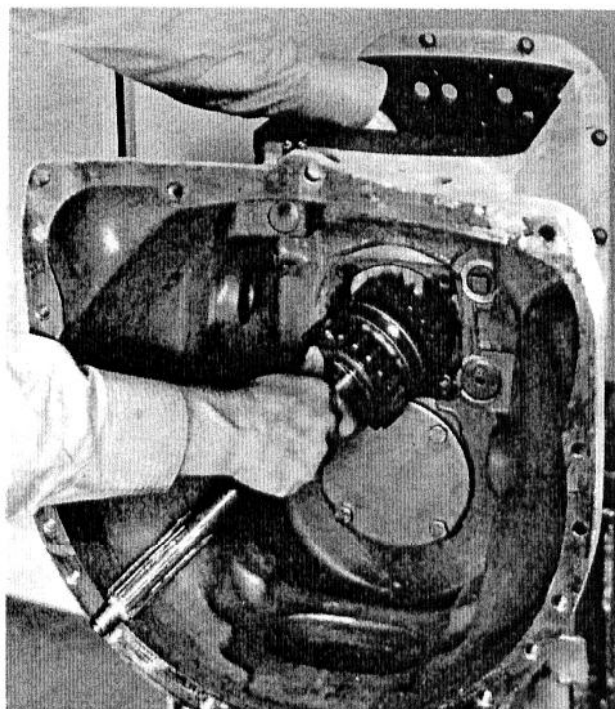

Fig. 3 - Removing Input Shaft Assembly
- c. Hold the two pinion gears and shift collar assembly at the rear end of the input shaft together, then slide the input shaft and pinion gears out of the housing as one assembly, see Fig. 3.